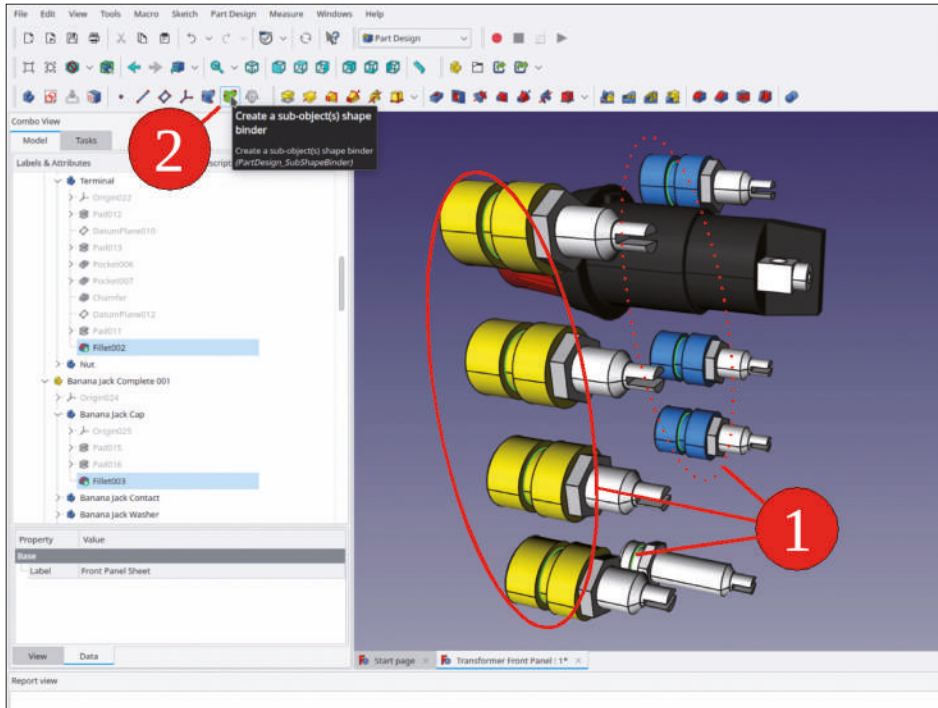
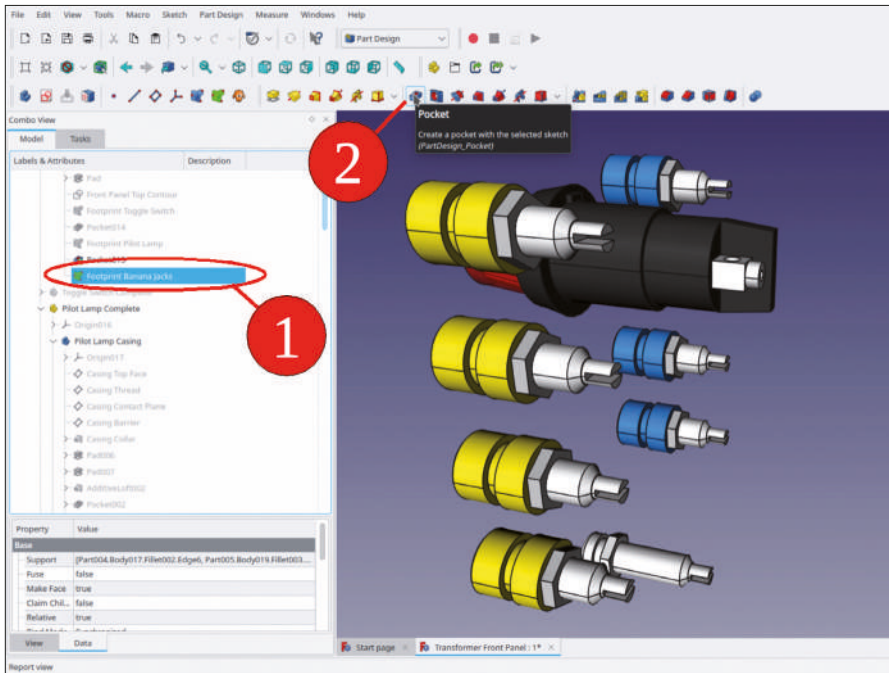

Figure 9-31
Figure 9-32
11. In a similar way, mark all contours of the banana sockets defining the mounting holes and then create a SubShapeBinder. Rename that to 'Footprint Banana Jacks' (Figure 9-31) and create the holes with the 'Pocket' command (Figure 9-32).